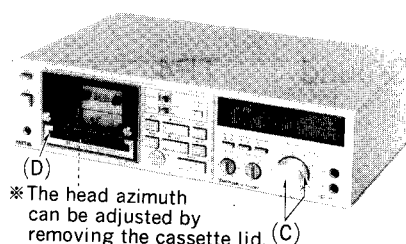
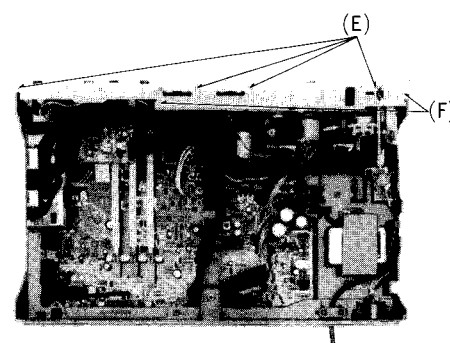
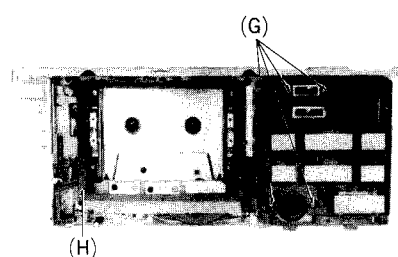
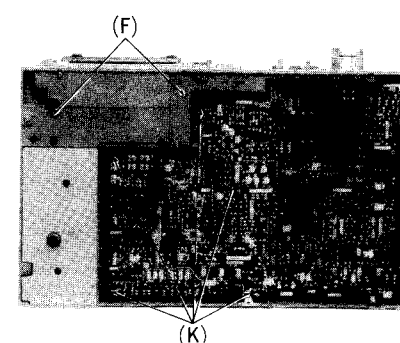

Fig. 2
Fig. 3
Fig. 4
Fig. 6
A Head azimuth adjustment Condition: • Playback mode Equipment: • VTVM • Oscilloscope • Test tape (azimuth) ... QZZCFM • Tape path viewer ... QZZCRD	Record/playback head adjustment 1. Test equipment connection is shown in fig. 2. 2. Playback azimuth tape (QZZCFM 8kHz). 3. Adjust record/playback head angle adjustment screw (B) in fig. 3 so that output level at LINE OUT becomes maximum. 4. Measure both channels, and adjust levels for equal output. 5. After adjustment lock head adjustment screw with lacquer.  Fig. 2 Erase head adjustment 1. Test equipment connection is the same above but use the tape path viewer (QZZCRD) instead of test tape (QZZCFM). 2. Playback this tape. 3. Adjust screw (C) shown in fig. 4 so that the tape may not get curled or malformed by tape guide of the erase head. 4. After adjustment, lock head adjust screw with lacquer.  Fig. 3 Fig. 4
C Playback frequency response Condition: • Tape selector ... Normal position • Playback mode Equipment: • VTVM • Oscilloscope • Test tape ... QZZCFM	1. Test equipment connection is shown in fig. 2. 2. Place UNIT into playback mode. 3. Playback the frequency response test tape (QZZCFM). 4. Measure output level at 12.5kHz, 8kHz, 4kHz, 1kHz, 250Hz, 125Hz and 63Hz, and compare each output level with the standard frequency 315Hz, at LINE OUT. 5. Make measurement for both channels. 6. Make sure that the measured value is within the range specified in the frequency response chart. (shown in fig. 6).  Fig. 6
㊦ Playback gain Condition: * Tape selector ... Normal position * Playback mode Equipment: * VTVM * Oscilloscope * Test tape ... QZZCFM	1. Test equipment connection is shown in fig. 2. 2. Playback standard recording level portion on test tape (QZZCFM 315Hz, 0 dB), and using VTVM measure the output level at LINE OUT jack. 3. Make measurement for both channels. Standard value: $0.7V \pm 1.5\text{ dB}$ Adjustment 1. If measured value is not within standard, adjust VR3 (L-CH), VR4 (R-CH) (shown in fig. 1). 2. After adjustment, check "Playback frequency response" again.